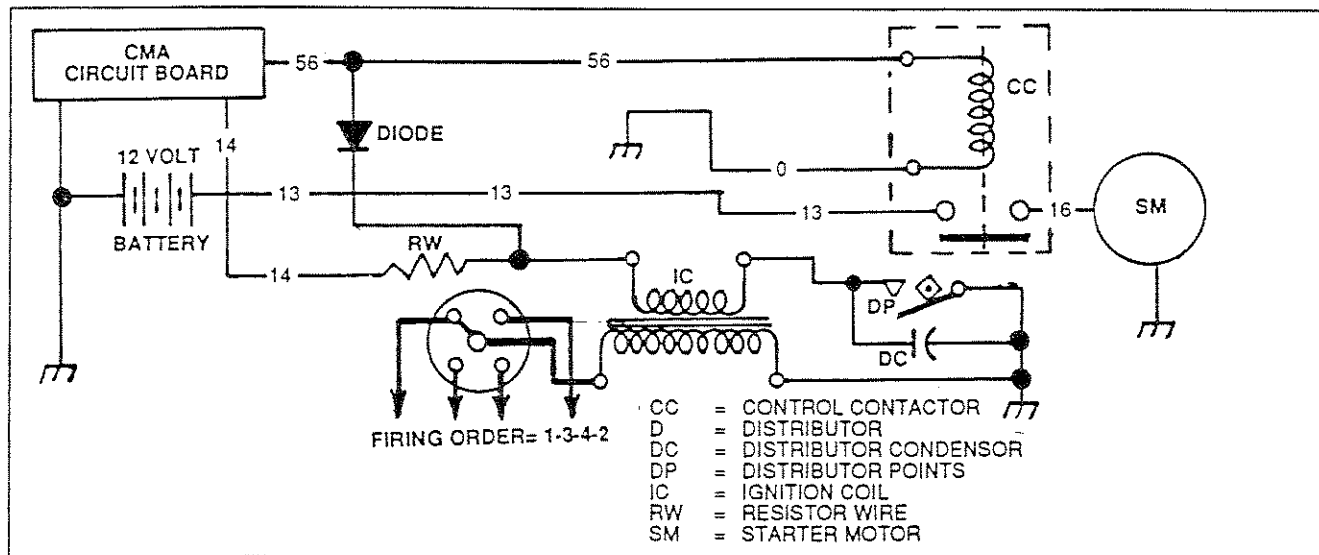

Figure 9. Typical Prepackaged Ignition Circuit
When the engine is cranked either automatically or manually, a crank relay (K1) and a run relay (K2) on the CMA circuit board are energized simultaneously. See Figure 9, below. When the engine is cranking, battery voltage is delivered to the positive (+) terminal of the ignition coil (IC), via Wire 56, a diode (D1), and Wire 14. Thus, when cranking, the full 12 volts DC is available to the coil to produce a hotter spark.